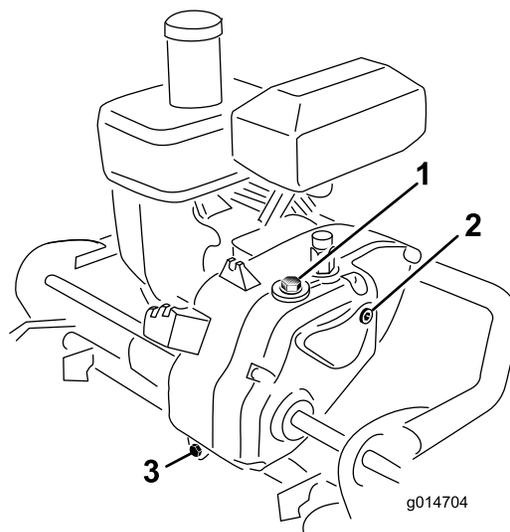

Figure 33
2. Remove the check plug from the right-hand side of the transmission (Figure 33).